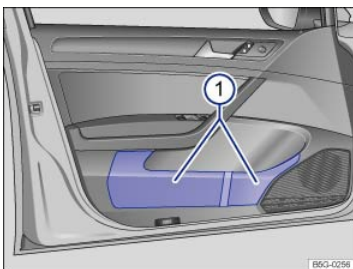

Fig. 165 In the driver door: Storage compartment.
There is a storage compartment in each vehicle door ⇒ Fig. 165①.